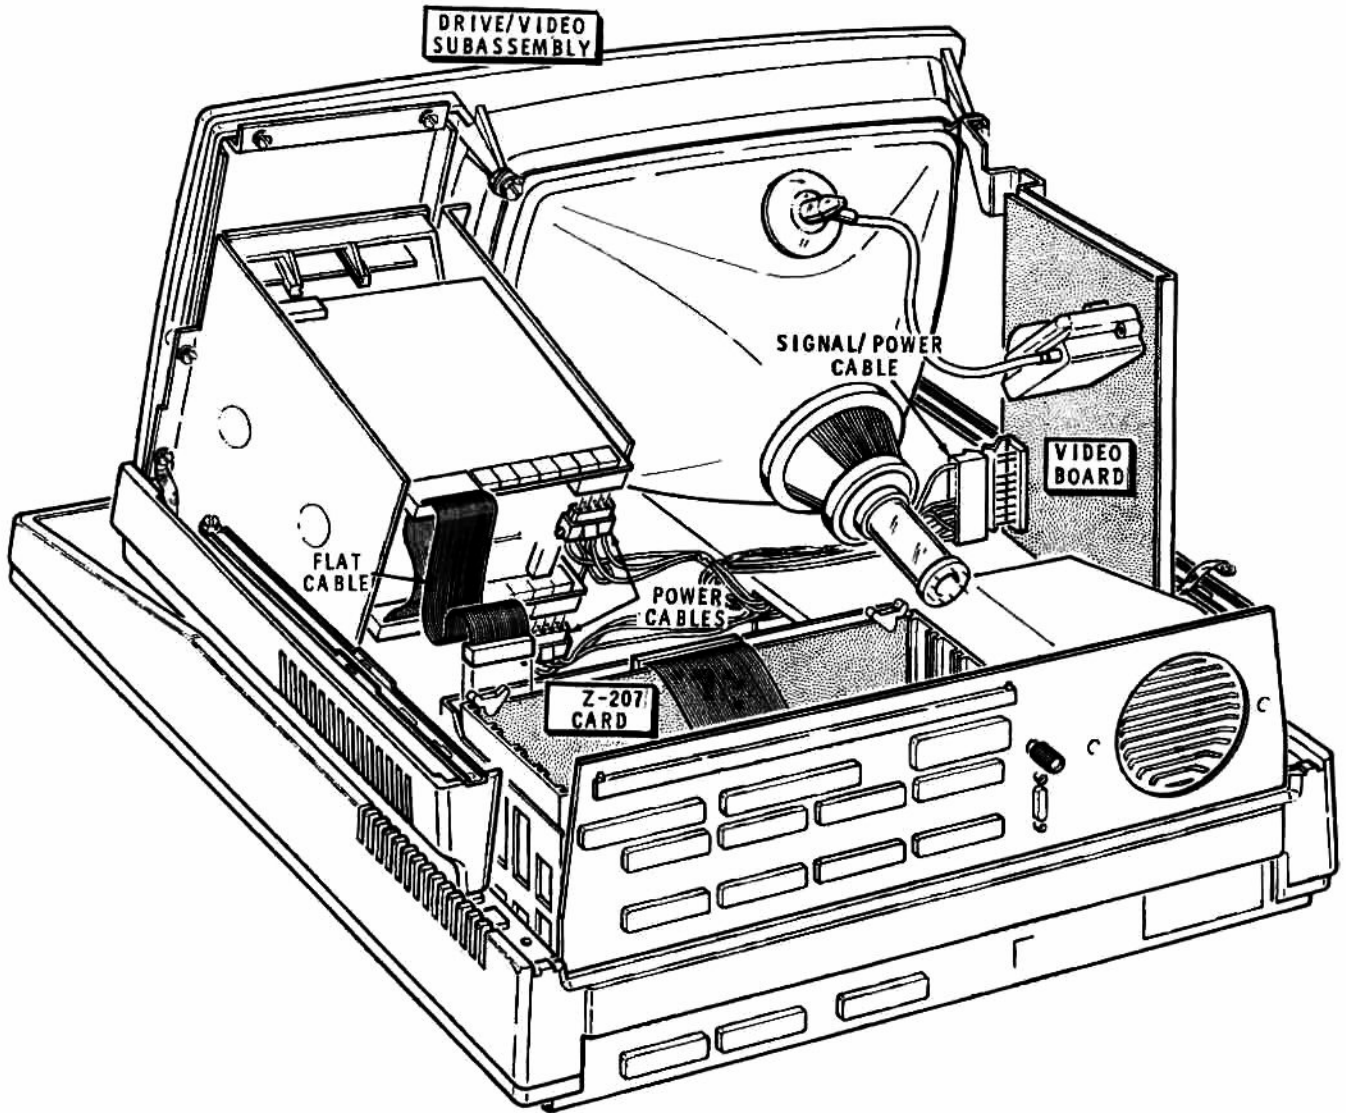

Figure 2.13. Reconnecting Video Board and Drives
- Refer to Figure 2.13 and position the drive/video subassembly 4 to 5 inches in front of its normal position on the base.